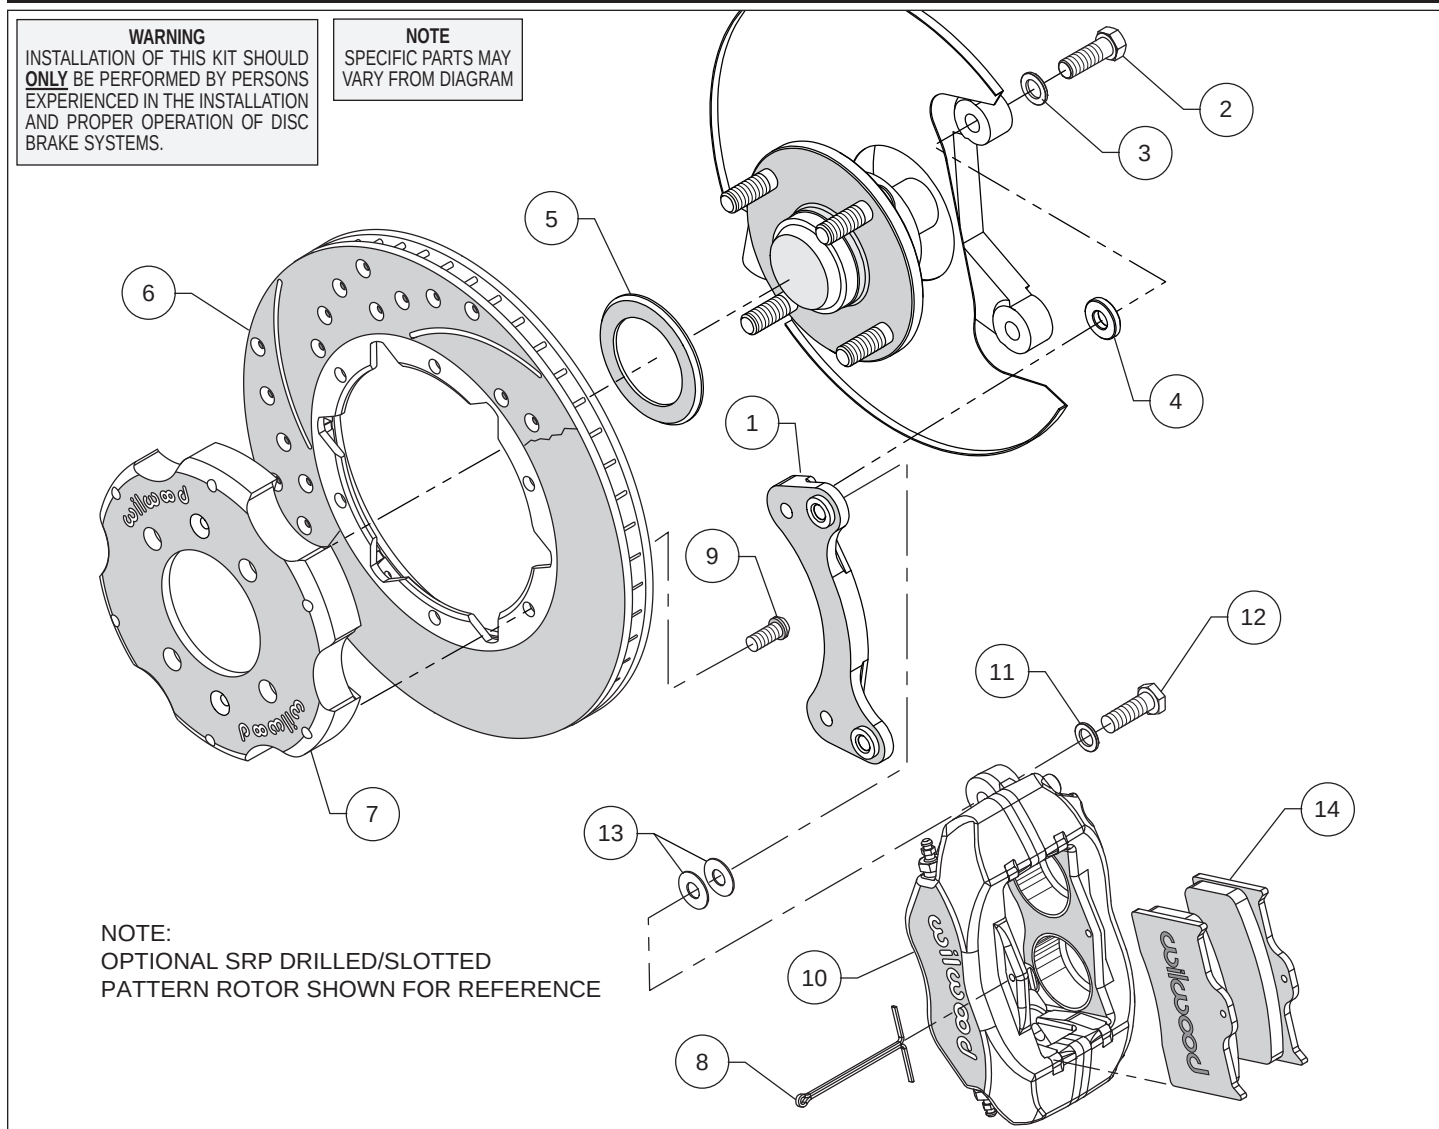

Figure 1. Typical Installation Configuration
Assembly Instructions (numbers in parenthesis refer to the parts list and Figure 1 on the preceding pages): **CAUTION:** All mounting bolts must fully engage clinch nuts. Be sure to check that all bolts are either flush or protruding through flanged side of clinch nut after shimming, Figure 3.
- Orient the caliper mount bracket (1) as shown in Figure 1 and Photo 1, and install using bolts (2) and washers (3). Place a spacer (4) on each bolt between the bracket and caliper mounting bosses, Figure 1 and Photo 2. Ensure that the flanged heads of the clinch nuts in the bracket are facing outboard, Photo 1. Temporarily tighten the mounting bolts. **NOTE:** The bracket must fit squarely against the mount bosses on the upright. Inspect for interference from casting irregularities, machining ridges, burrs, etc. Remove bolts one at a time, apply red *Loctite*® 271 to the threads and torque to 30 ft-lb.
- Orient the rotor (6) and the hat (7) as shown in Figure 1 and Photo 3. Attach rotor to hat using bolts (9). Using an alternating sequence, apply red *Loctite*® 271 to the threads, and torque to 25 ft-lbs.
- NOTE:** Please reference the caution statement at the beginning of the assembly instructions. Mount the caliper (10) onto the caliper mounting bracket (1) using bolts (12) and washers (11), as shown in Figure 1. Initially place two .035" thick shims (13) on each bolt between the caliper and the bracket, Photo 5. Temporarily tighten the mounting bolts and view the rotor (6) through the top opening of the caliper. The rotor should be centered in the caliper, Photo 6. If not, adjust by adding or subtracting shims between the bracket and the caliper. Always use the same amount of shims on each of the two mounting bolts. **NOTE:** The end of each bolt must be flush with or slightly protruding from the head of the clinch nut, as shown in Figure 3. If necessary place spare shims between washer (11) and caliper mounting ear to achieve the proper clinch nut engagement. Once the caliper alignment and clinch nut engagement are correct, remove the bolts one at a time, apply red *Loctite*® 271 to bolt threads, and torque to 40 ft-lb.